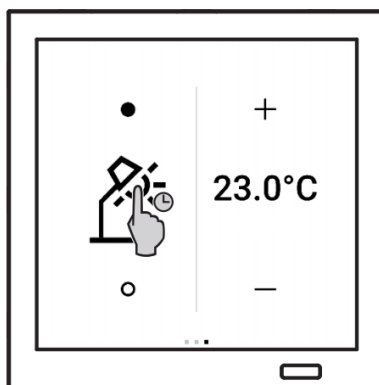
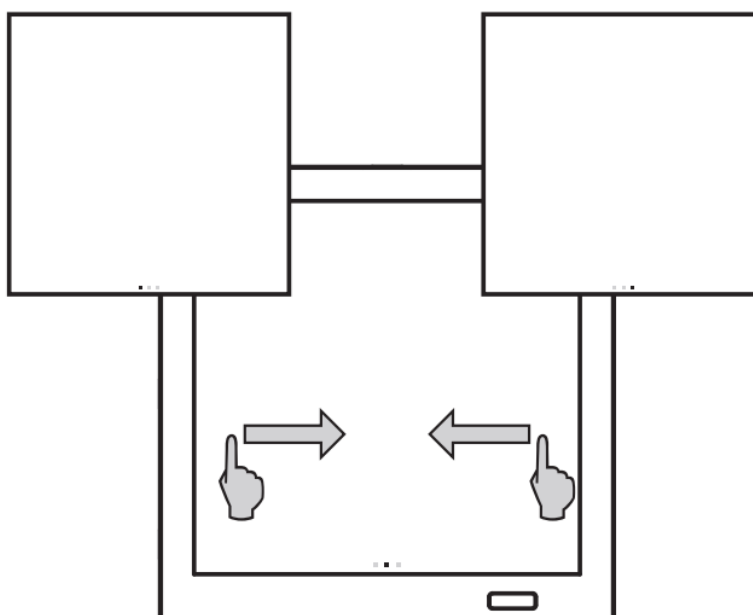

Fig. 9: Displaying function
Fig. 10: Scrolling through pages
- Select the function icon (fig. 9) in the respective area or tap and hold it in the favourites (fig. 10).